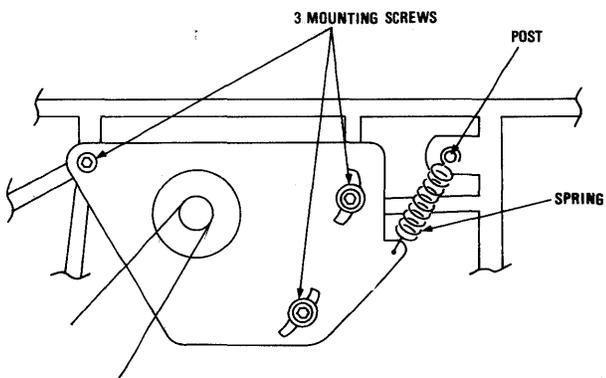

Figure 6-7. Motor Mounting Plate
10. Tension motor plate using spring (1446 4002) and post (1446 3292), see figure 6-7.